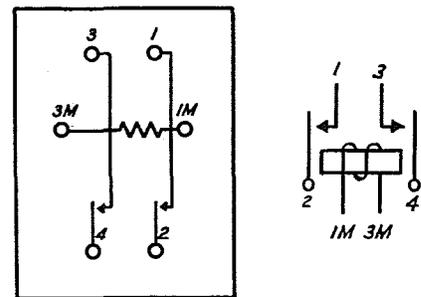

FIG. 43-WINDING AND SPRING TERMINAL ARRANGEMENT (TERMINAL SIDE) - KS-5350 AND KS-5451 RELAYS HAVING THREE HORIZONTAL ROWS OF TERMINALS
2.62 Where the relay has either three or five horizontal rows of terminals the middle row of terminals is designated by the letter M preceded by the same number as the nearest terminal above. (See Figs. 43 and 44)